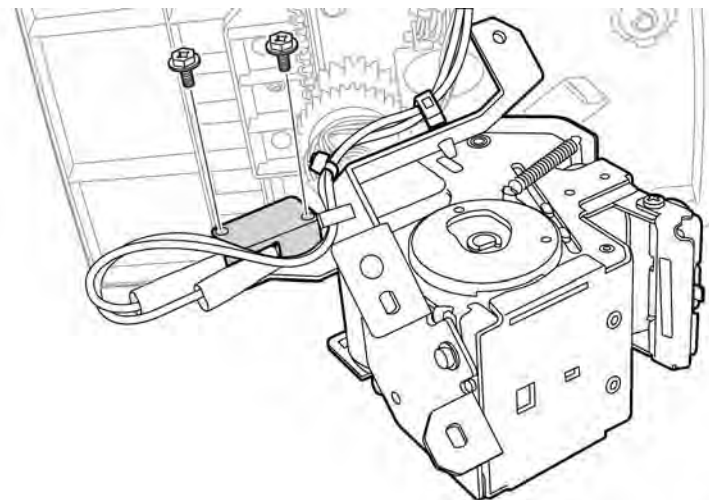

Figure 2 Remove the switch bracket screws
4. Remove 2 screws (metal) that secure the switch to the bracket, Figure 2.